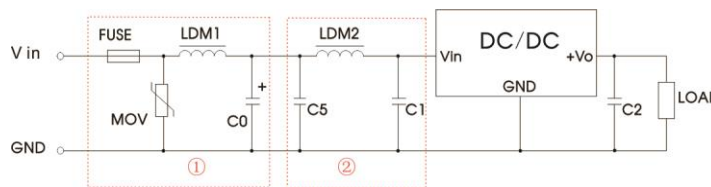

Fig.4 Recommended compliance circuit
Note: Part ① in Fig. 4 shows EMS compliance filter and part ② filter for EMI compliance; depending on requirement both filters ① and ② can be used in series as shown.